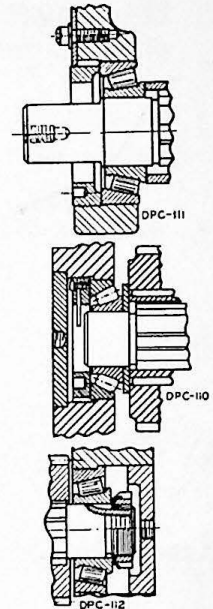

FIGURE 27
5. Remove adjusting nut "A" at rear end of shaft. This is a split type of lock nut. See center illustration Figure 27. On No. 2 machines only. No. 3 machines employ type of lock nut shown at top illustration Figure 27.
6. Proper procedure for removal of shafts can be seen on inspection. Three types of lock nuts are shown in Figure 27.